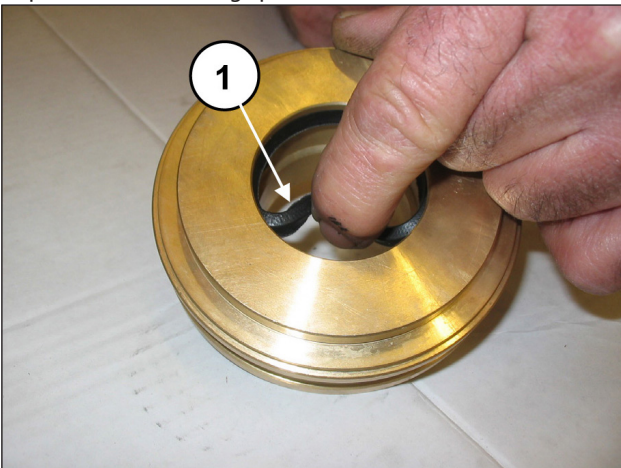

Fig. 124
Insert the low pressure seal in the seal support (pos. ①, Fig. 124) paying attention to the mounting direction which requires that the sealing lip be set forward (towards the head).